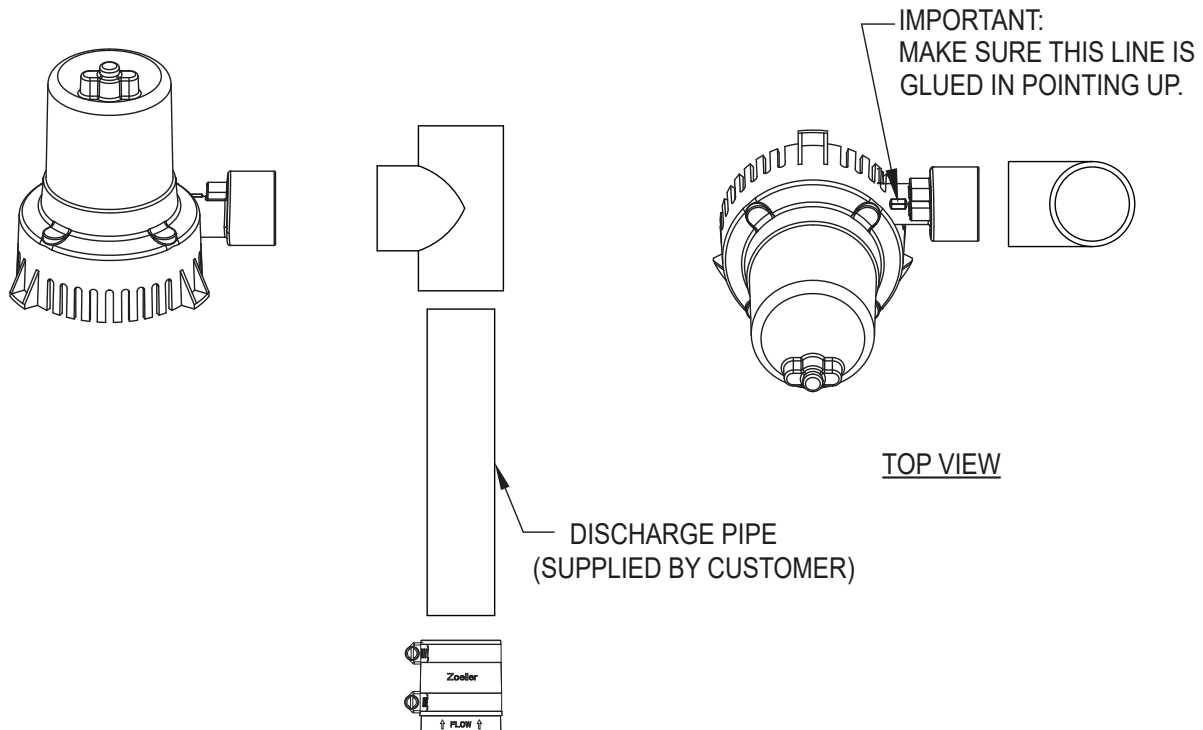

FIGURE 4
6. Solvent weld DC pump to tee at a **30 degree angle** as shown in Figure 4.
8. Determine the position of the DC pump and measure between the in-line check valve and tee. Use that measurement to cut discharge pipe. Solvent weld that piece first to the tee. Measure, cut & solvent weld any remaining discharge piping above the tee. Finally, connect the discharge pipe to the in-line check valve and tighten hose clamp. See Figure 4..